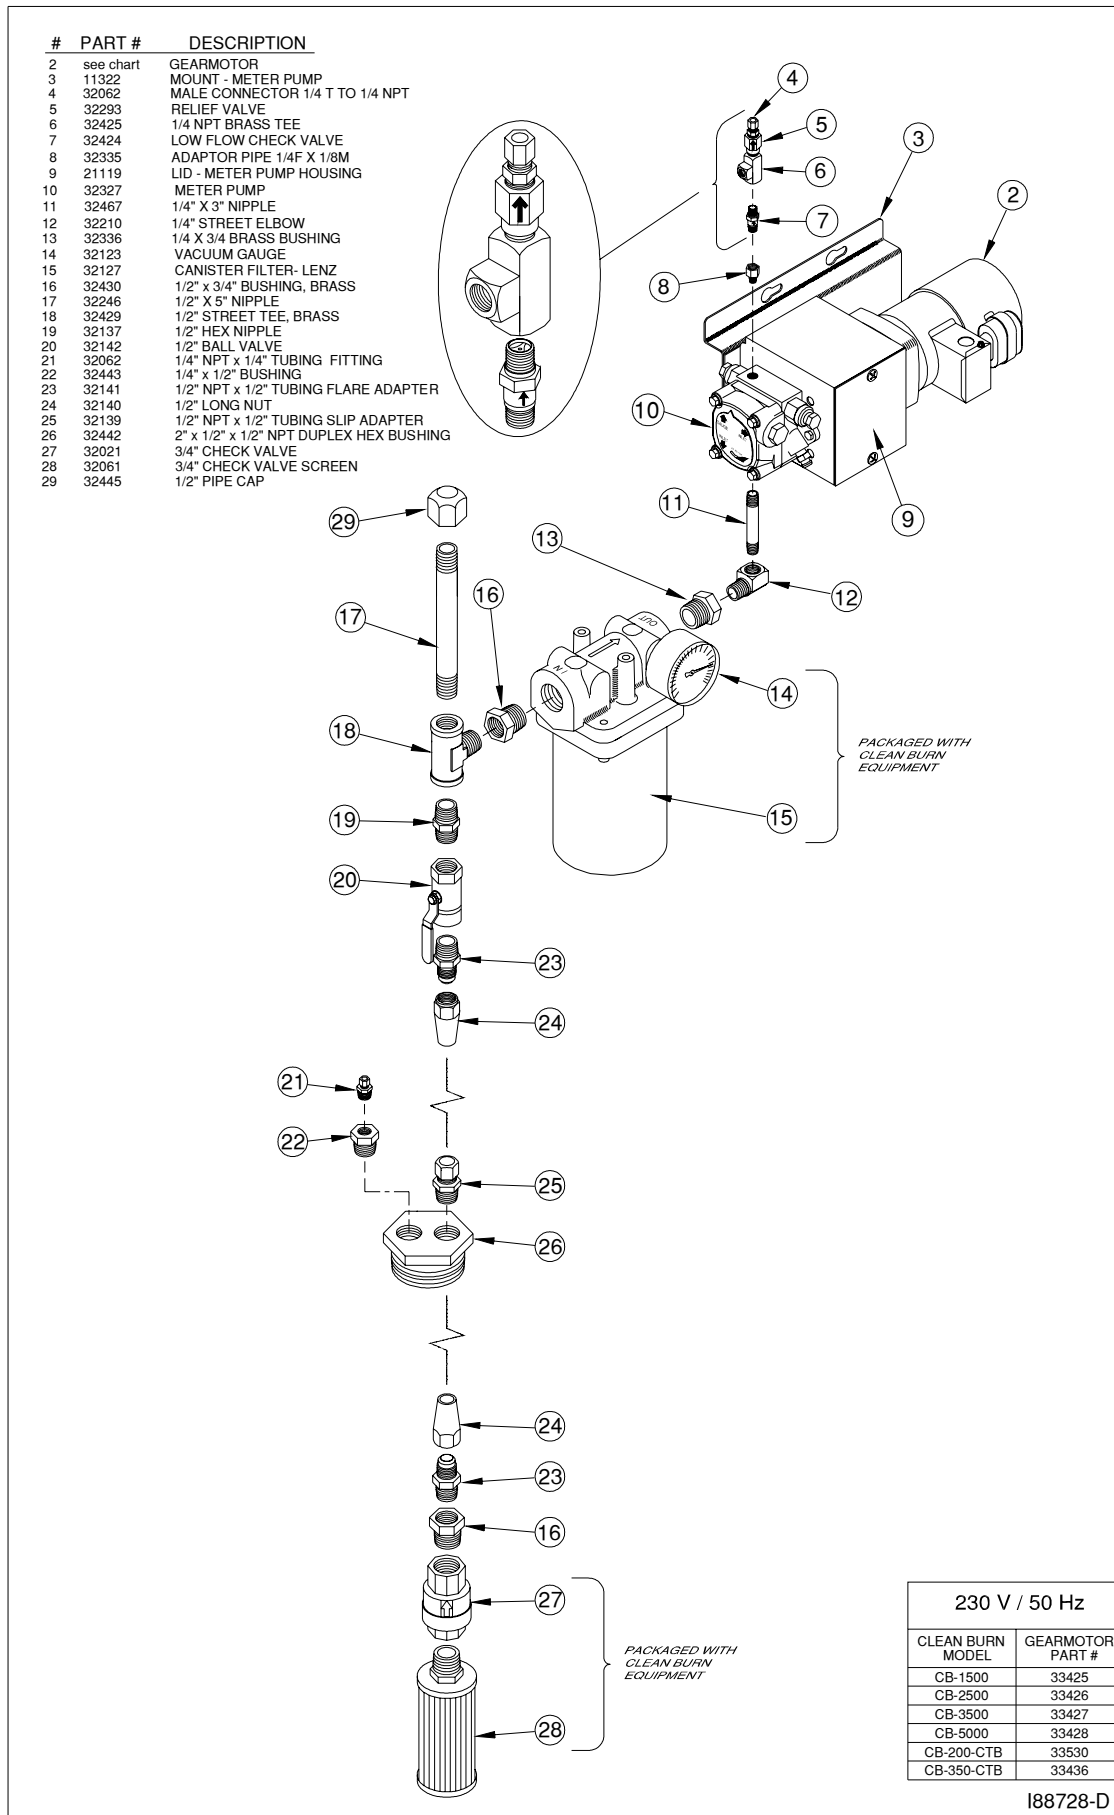

Figure 4E - Metering Pump Component Detail
- Verify that you have the proper metering pump for your boiler (note the specific gear motor part numbers shown in Figure 4E).
1. Refer to Figures 4E and 4F.
- a. Refer to Figure 4E for a detailed look at the metering pump components and fittings.
- Install the canister filter assembly onto the 1/4" brass street elbow as shown in Figure 4E. The canister filter must be installed with the arrow pointing towards the pump (direction of oil flow).
The metering pump requires the installation of a pressure relief and low-flow check valve as shown in Figures 4E and 4G.